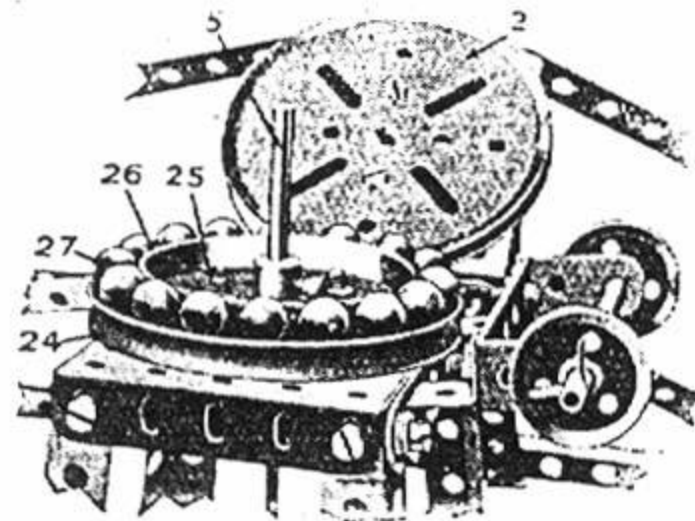

FIG. 4.60B
*Alternative Construction.* In order to make the jib swivel more freely, a ball-race, Fig. 4.60B, may be fitted. This is made by bolting to the top of the frame a 3" Pulley Wheel 24 by Bolts 25 which also secure in the Pulley Wheel 24 a Wheel Flange 26. This provides a circular groove for the reception of the Ball Bearings 27. The Pulley Wheel 2 which is bolted to the gear-box 1 is then placed over the Rod 5 and rests on the Ball Bearings 27, which thus support the weight of the superstructure.